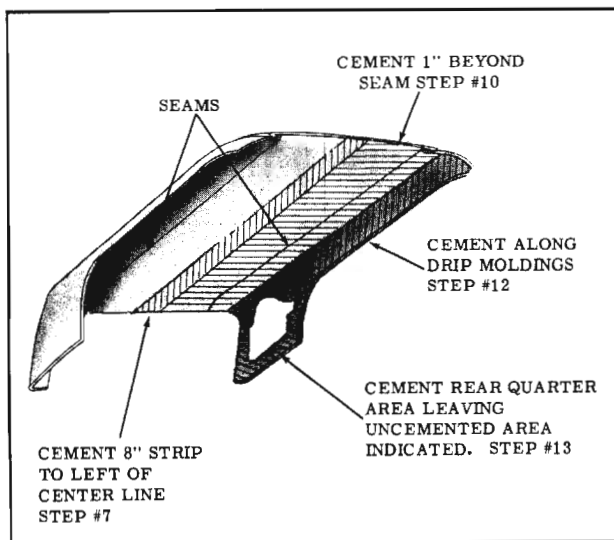

Fig. 16-172 Cementing Fabric Cover
- Apply approximately an 8" wide strip of nitrile non-staining vinyl trim adhesive such as 3M Vinyl Trim Adhesive or Permalastic Vinyl Trim Adhesive or equivalent along exposed inner layer of fabric cover adjacent to center line. (Fig. 16-172)
- 10. Once 8" strip of fabric cover is cemented to roof panel, fold over uncemented left side portion of fabric cover. Apply cement on inner layer of fabric cover to extend approximately 1" beyond dielectric seam. Apply cement to corresponding area of body. (See Fig. 16-172)
- 12. Fold over fabric cover and apply cement to remaining portion of fabric cover and roof panel and drip molding. Cement cover to roof panel and drip molding. (Fig. 16-172)
- 13. Cement perimeter of fabric cover in rear quarter area. Be certain fabric cover is cemented at emblem or plate assembly attaching locations. This type of cement application will permit easier fitting of cover in rear quarter area. (Fig. 16-172)